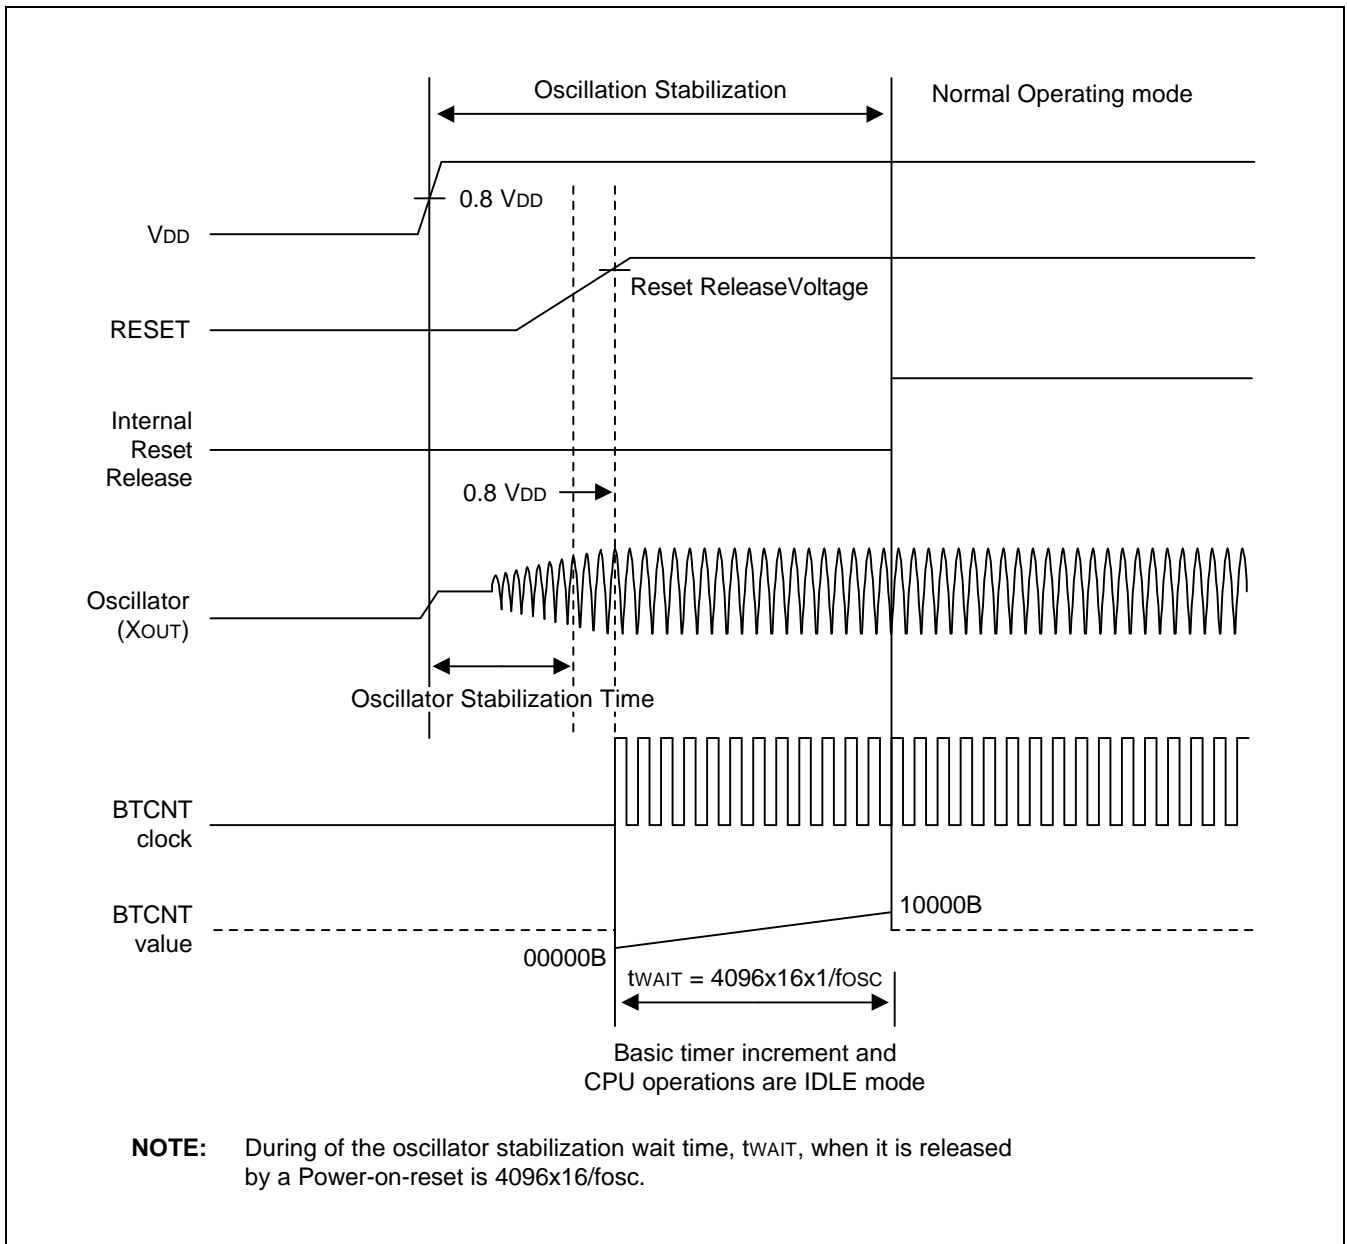

Figure 10-2. Oscillation Stabilization Time on RESET
5. Figure 10-2 and 10-3 shows the oscillation stabilization time on RESET and STOP mode release